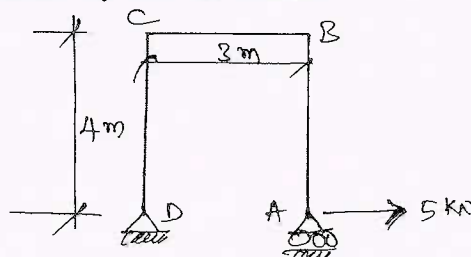

Fig.Q6(a)
- 6 a. Determine the horizontal displacement of the roller support end A of the frame shown in Fig.Q6(a). take  $EI = 8000 \text{ kN-m}^2$  by unit load method.